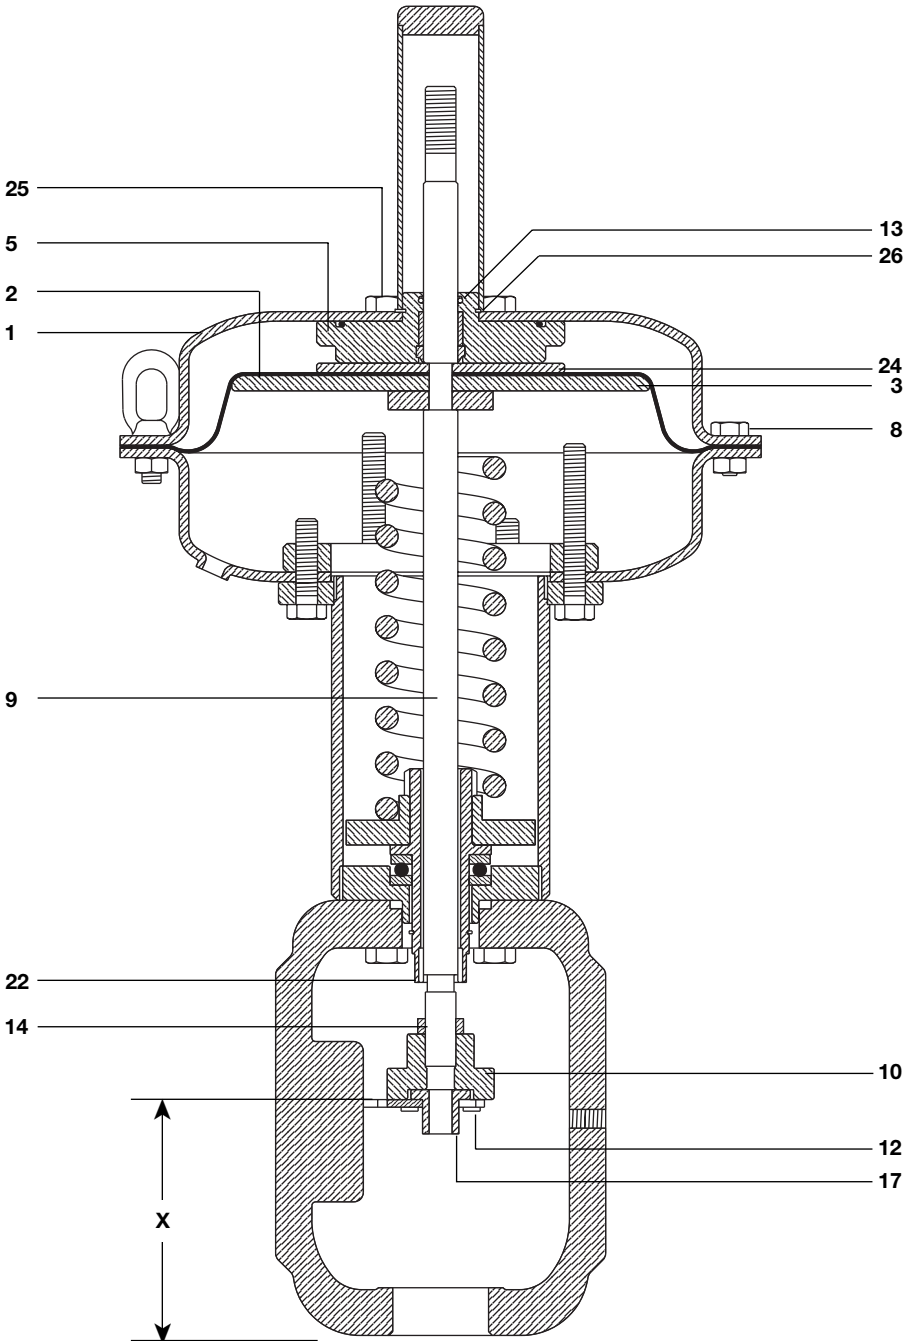

Fig. 10 PN2000 series
5.4 PN2300 to PN2600 series (Refer to Figure 10):
Table 2 Dimension 'X' approximate in mm (inches) (See Figure 10)